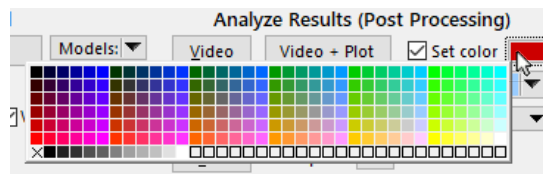

Figure 9. Color selector.
- 10 **Set color** checkbox and color selector (Figure 9). Check this box to show a color selector. The color selector defines a *run color* that overrides the built-in colors of the vehicle and other 3D shapes such as tire force arrows in videos.